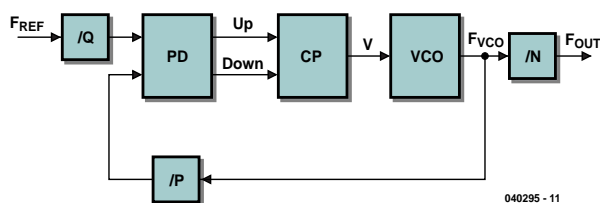
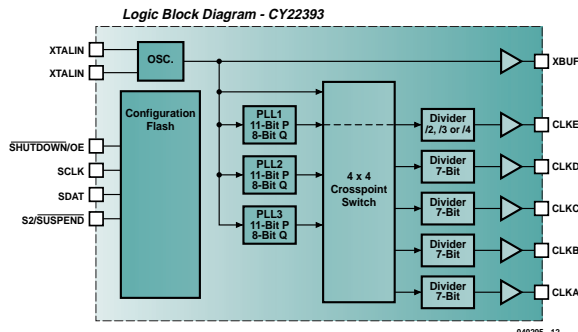

Figure 1. The PLL principle with feedback divider.
Figure 2. The CY22393 block diagram.
The clock generator chips contain a Phase Locked Loop (PLL) with the fastest versions having an output frequency range from 100 MHz to 400 MHz. The PLL layout is shown in **Figure 1**. It differs from a standard PLL by having programmable dividers at the input and output and in the feedback path. The input clock F_{REF} (typically a crystal) is connected to a programmable divider Q . This clock signal is now compared in the Phase Detector (PD) with the output frequency from the Voltage Controlled Oscillator (VCO) divided by P and fed to the Charge Pump (CP). The CP output is a function of the phase difference and controls the VCO. The VCO output is passed through the output divider N to produce F_{OUT} . Altogether
We shall take a closer look at two of the Cypress clock chips. Firstly the CY22393 ('Three-PLL Serial Programmable, Flash Programmable Clock Generator') has six configurable outputs (**Figure 2**). The device can be flash-programmed (non volatile) from a special external programmer. The programming algorithm is not in the public domain presumably for licence protection and to guard against over-clocking or similar abuse. While the oscillator is running it is possible for the contents of internal registers can be overwritten via the I²C-Bus but this storage is volatile and they will be lost on power down.
The input filter (**Figure 1**) thus provides common-mode isolation between the signal source and the amplifier. In addition, capacitors for differential-mode suppression are included as a precaution. We prefer not to use ceramic capacitors in the signal path for audio applications, but in this case they are present in parallel with the output of the preamplifier for audio signals. If the preamplifier has low output impedance, the effect on the sound quality will be negligible. The two channels are kept fully apart on the circuit board, so the entire signal path between the preamplifier and the final amplifier remains separate for the two channels. The two grounds must be connected together at a single point at the analogue power supply neutral potential. In the case of our amplifier, this point is thus on the amplifier board. The filter also prevents ground loops from arising.
Just as for the filters described later on, a printed circuit board has been designed for this filter. The inductor should be fitted vertically on the circuit board, and its leads must be pulled tight and soldered to the circuit board under tension. This avoids the need for any additional fastening. The component overlay (**Figure 2**) and photo (**Figure 1**) clearly show what is intended. Cinch sockets can also be fitted to the circuit board. The board should be fixed firmly in place using the five mounting holes.
Figure 1. The input filter suppresses both common-mode and differential-mode signals. Pay particular attention to how the inductors must be wound and placed. Copper track layouts from our website.
Figure 2. A single printed circuit board has been designed for all of the filters. The portions for the loudspeaker filters are laid out as mirror images of each other.